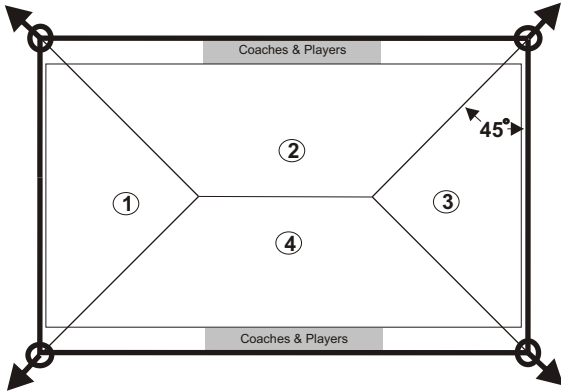
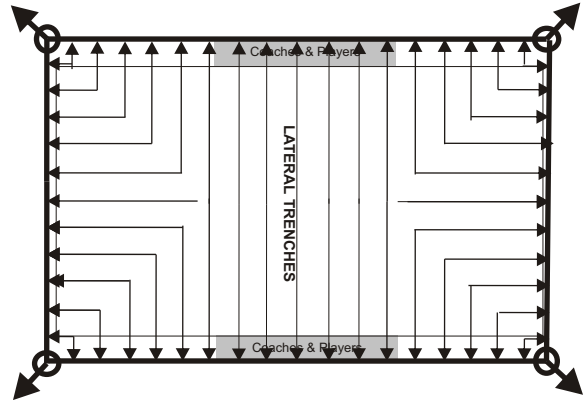

FIG. 12 DIVIDE FIELD INTO FOUR SECTIONS
FIG. 13 LATERAL TRENCHES ON FLAT FIELD
**FLAT OR MINIMUM SLOPE FIELDS:** This type of field should have a *Sideline Trench* around the entire field. (See Fig 12) *Collection Points* should occur at all four corners of the field. For the placement of the *Lateral Trenches* divide the field into four sections. (See Fig. 13) Then place the *Lateral Trenches* in a manner in which the collected water in the *Lateral Trenches* travels the shortest possible distance to the *Sideline Trenches*. (See Fig. 13)